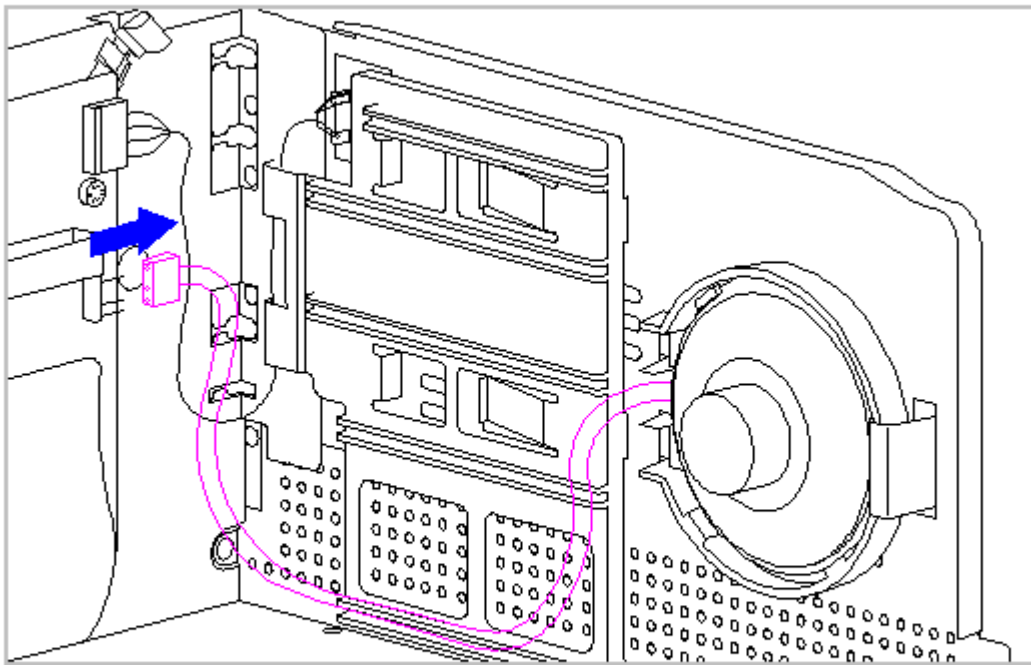

Figure 5-36. Disconnecting the Speaker Cable
3. Disconnect the speaker cable from its connector on the backplane (Figure 5-36).